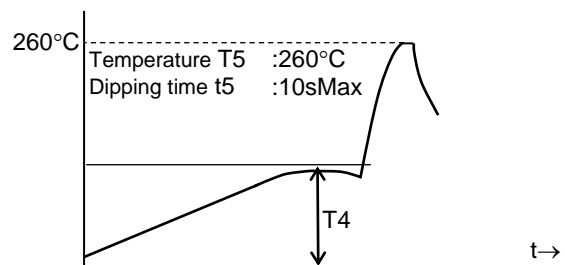

Fig.9 Temperature profile for flow soldering (Example)
• Flow soldering (after dipping) Soldering by dipping the whole device in a solder bath.	Table 7 (See Fig. 9 for temperature profiles.)